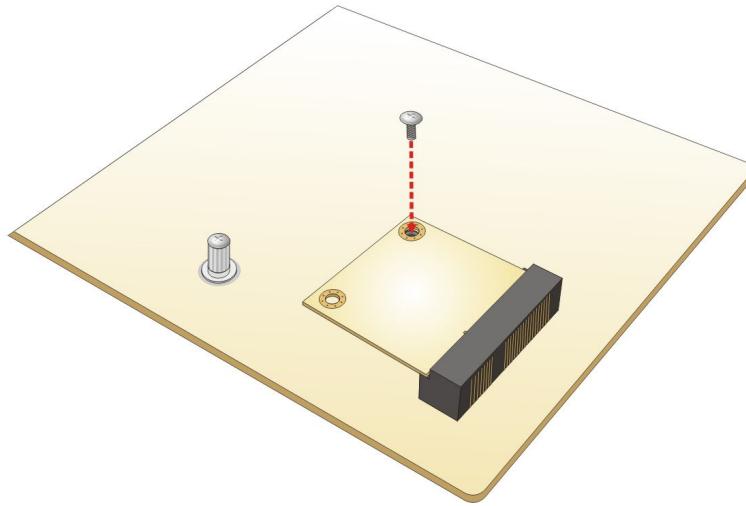

Figure 4-12: Securing the Half-size PCIe Mini Card
Step 4: Secure the half-size PCIe Mini card. Secure the half-size PCIe Mini card with the supplied retention screw (Figure 4-12).